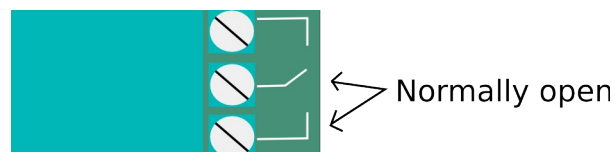

Figure C2: Normally open screw terminals
7. Loosen the normally open screw terminals in the replacement relay. These are the same terminals that were used in the original relay. They are the center terminal for each relay, and the terminal which has a line going away from it. See *Figure C2*.